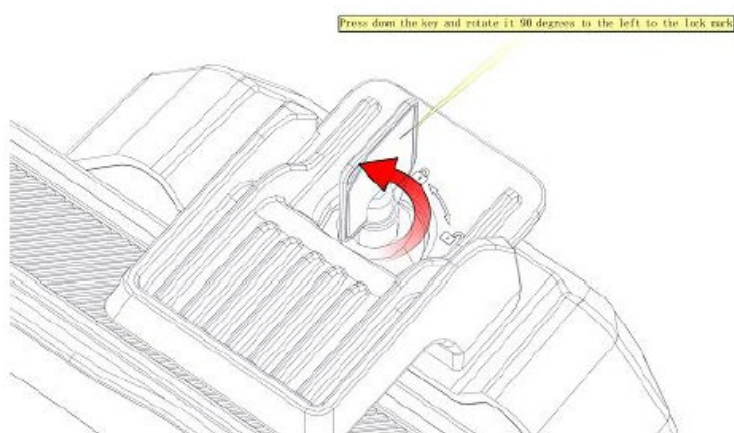

Fig. 4-8
3.Hold down the key and rotate 90 degrees to the locked sign, pull out the key to lock the telescopic buckle as shown in Fig.4-8.